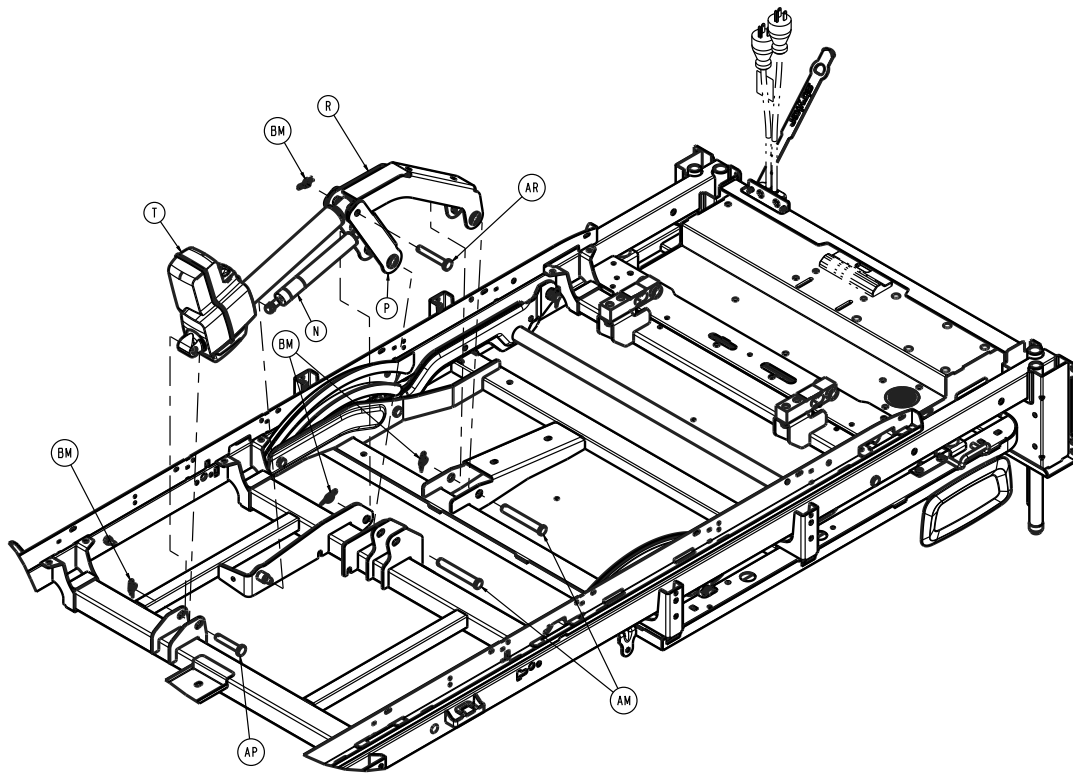

Figure 25 – Replacing the Fowler actuator
7. Using needle nose pliers, remove the two ruer clips (BM) from the two clevis pins that secure the Fowler actuator (T) to the litter and the Fowler frame (Figure 25). Save the ruer clips.
8. Support the actuator. Remove and save the two clevis pins (AP, AR) (Figure 25).